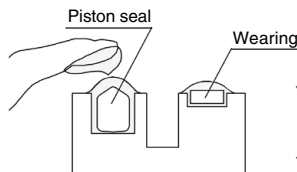
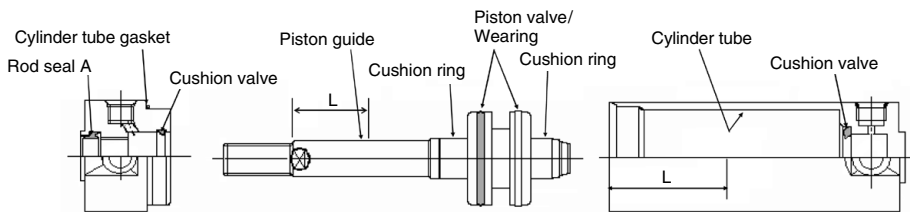

Fig. 7 Piston seal
Fig. 9 Grease application points $L = \frac{\text{STROKE}}{2}$ or 100 mm and more
- ③9 Piston seal: Rub grease into the seal groove and outer circumference of the seal. (Fig. 7)
- ③0 Cylinder tube gasket: Lightly apply grease.
- Cylinder component parts: Apply grease to each component parts of the cylinder in Figure 9.